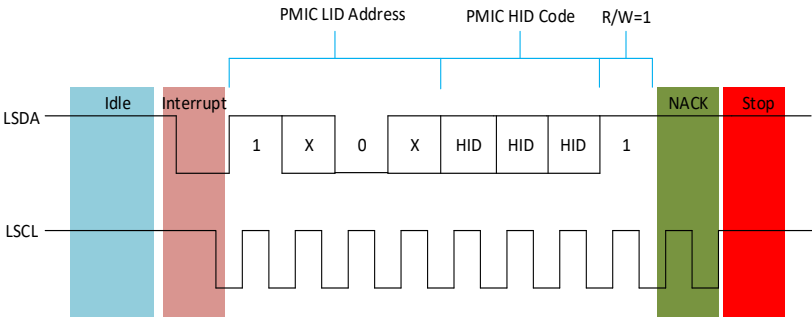

Figure 24 — PMIC Requests Interrupt; Host NACK followed by STOP
- The Host sends NACK on the 9th bit as shown in Figure 24 followed by a STOP command. In this case, the PMIC device does not transmit the IBI payload and wait for the next opportunity to request an interrupt. At this point, though Host sent an NACK, it does have knowledge of which PMIC device sent the IBI request. The PMIC device retains the IBI status flag (Table 105, “Register 0x0A” [1] = ‘1’) and Pending Interrupt Bits [3:0] = ‘0001’.